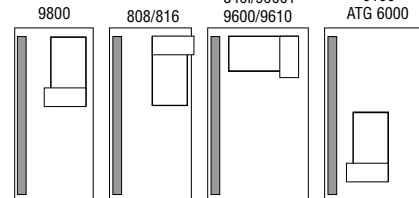

Figure 4. Orientation of 9056
4. 8400, 8440: Mount the unit on the flat underside of the control panel case using adhesive pads. 9056: Plug the communicator onto the two sets of pins on the host main pcb. Figure 4 shows the location of the 9056 within various hosts.